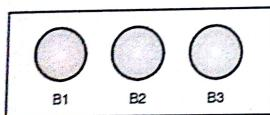

Fig. 2.4.1 : Reliability of manufacturing machine
- A large manufacturing machine has three different bearing, shown in Fig. 2.4.1 that fail in service.